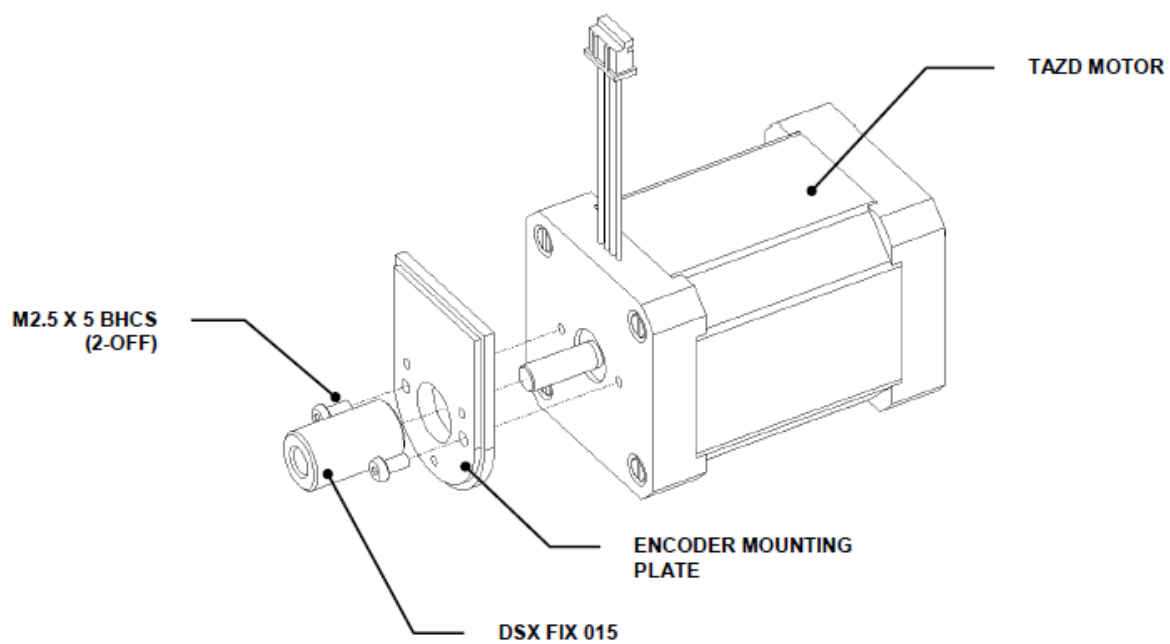

Figure Z-21: Encoder Mounting Plate
6. Remove the encoder mounting plate. When reinstalling, use the Encoder Center Fixture (DSXFIX015) to ensure that the Mounting Plate is located concentrically with Motor Shaft. Fix the mounting plate using two M2.5 x 5 BHCS and a small amount of Loctite 425 (Figure Z-21).